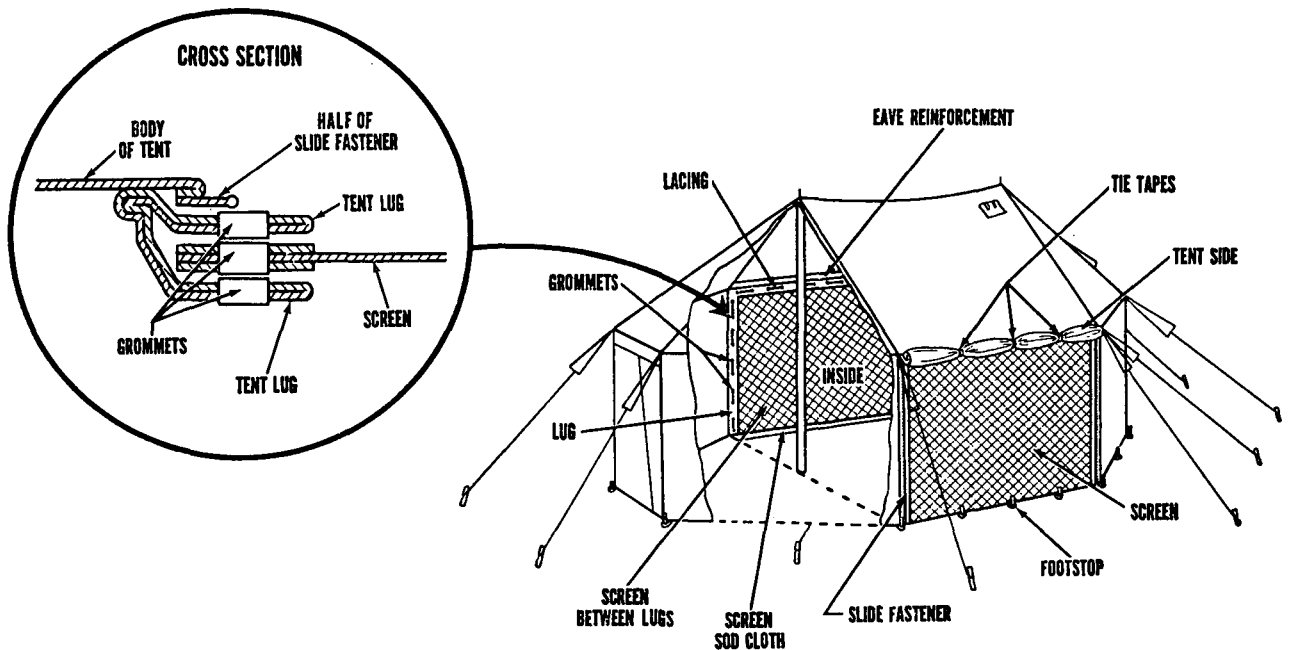

Figure 17. Attaching screens to sidewalls of tent, command post, M-1945.
- (3) *Attaching screens to sidewalls* (fig. 17). Remove footstops from sidewalls, open slide fasteners at corners, and roll up sidewalls and liner of tent and tie them with tie tapes near eave reinforcement. Then place a screen between lugs at each side of tent, aligning grommets on screen with grommets on lugs. Run the 13-foot rope, attached to a top corner of screen, through aligned grommets of screen and lugs at the top, securing with a knot at the last set of aligned grommets. In the same manner, run the 8-foot rope, attached to each side of screen, downward through aligned grommets of screen and lugs, securing with a knot at the last set of aligned grommets. Fold screens at bottom so sod cloths are on ground inside tent. Fasten footstops that were removed from sidewalls to grommets at bottoms of screens, and attach footstops to the 16-inch pins.